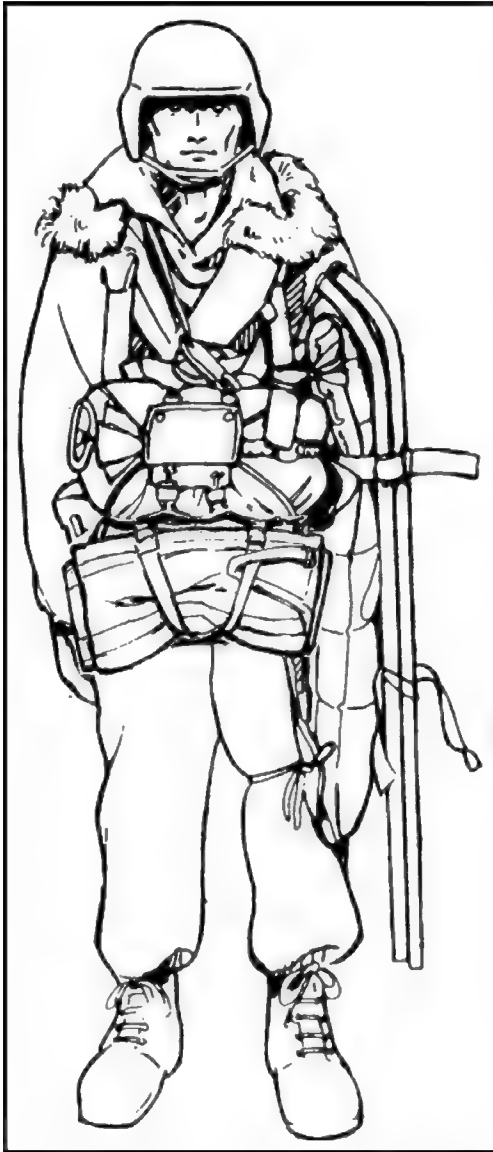

Figure 13-8. Upper and lower tie-downs.
b. When jumping with the ALICE pack or weapons case, the parachutist routes the lower tie-down on the case through the metal frame and around the leg. A separate tie-down tape for each is not necessary (Figure 13-8, page 13-8).